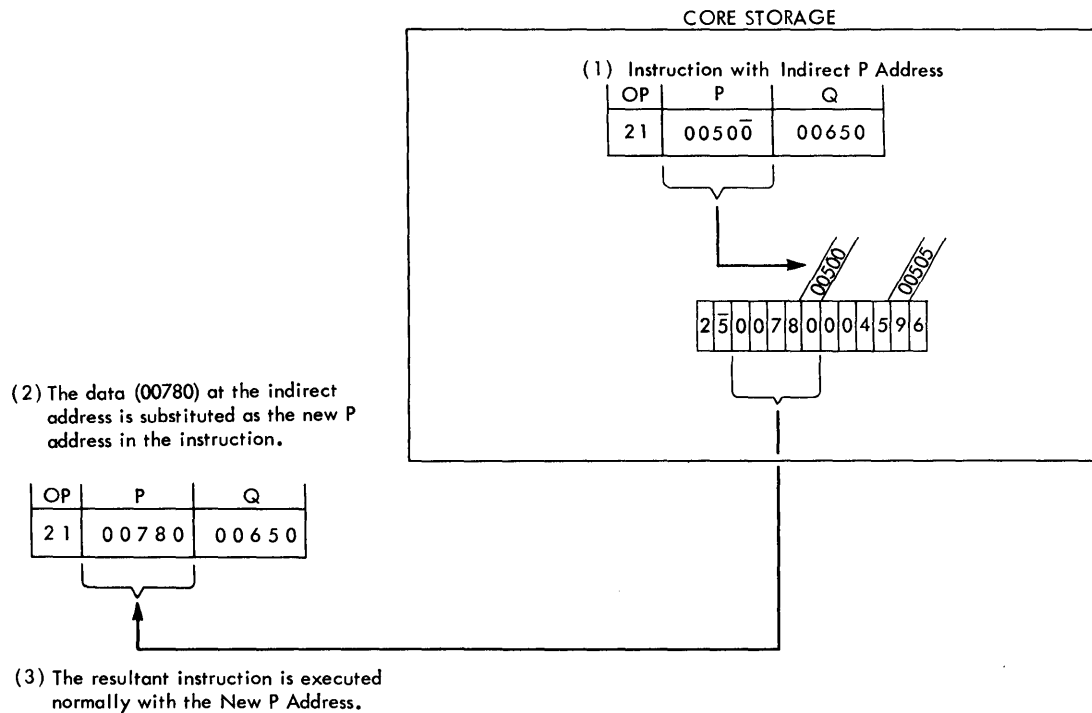

Figure 18. Indirect Addressing
The P or Q address of an instruction is an indirect address when a flag bit is over the units position. Figure 18 shows that (1) the instruction (21 00500 00650) has an indirect P address of 00500, (2) the data at